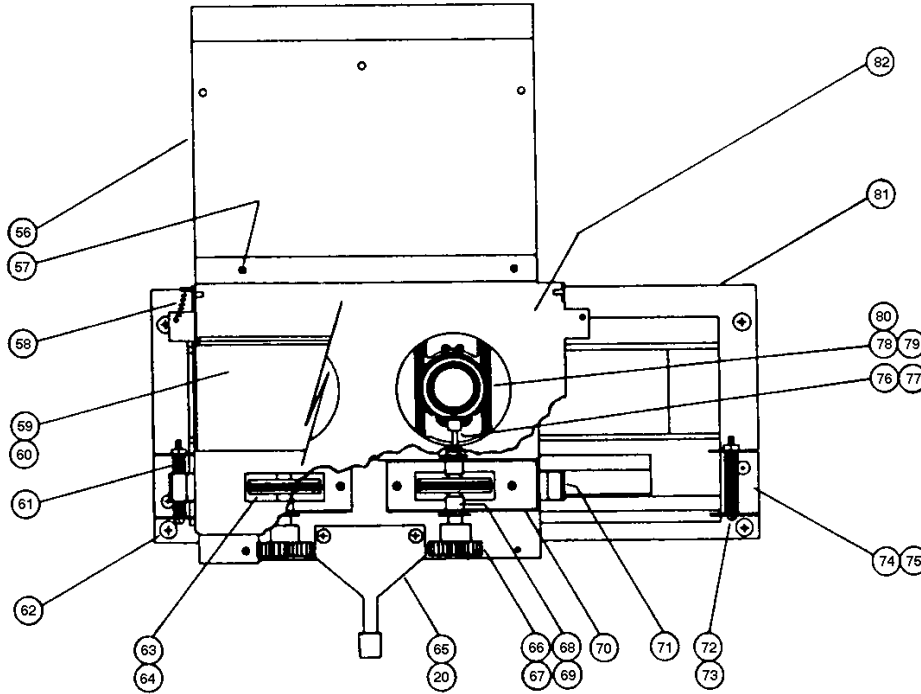

Figure 4
9. Remove objective lenses from small box inside the hood. (See Figure 4 for installation assistance.)
(Figure 4)
1. With the screen removed, the objective lens can be easily removed for cleaning (Figure 4).